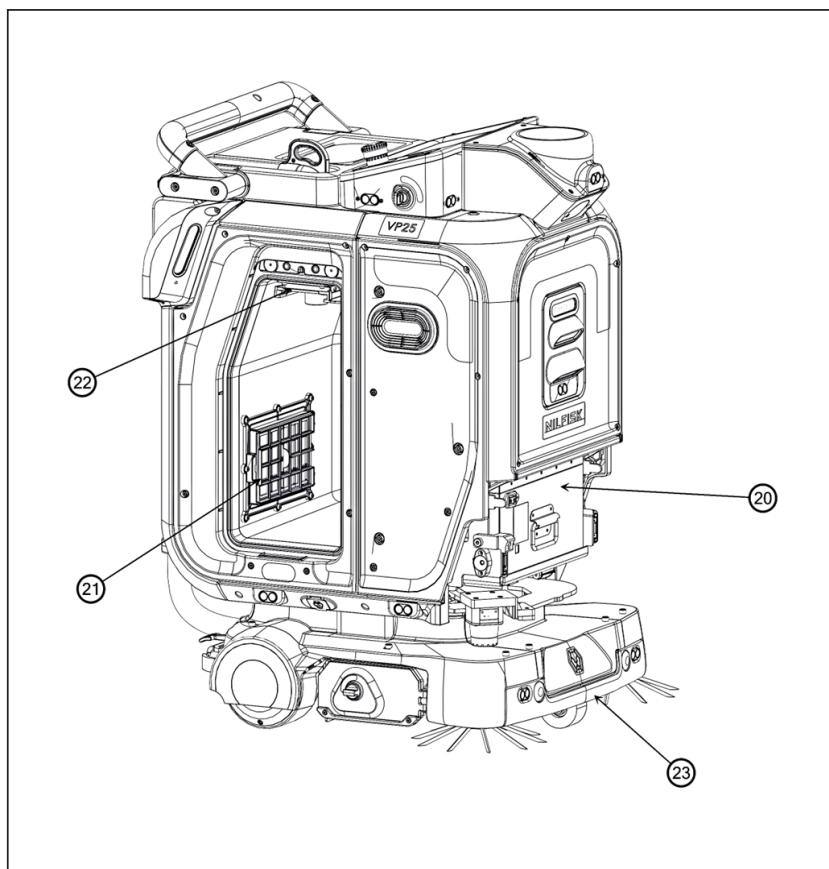
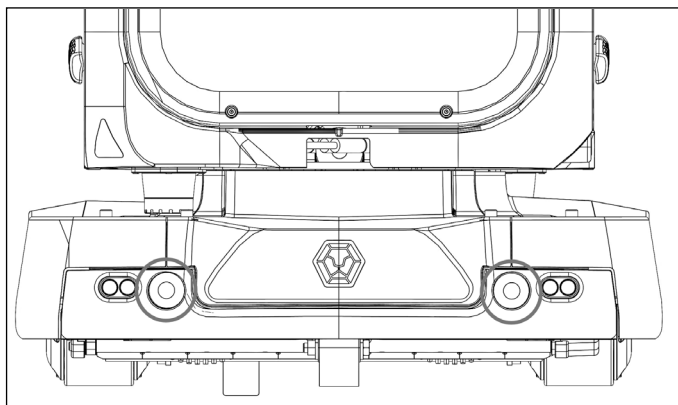

Figure 4
Figure 8
2. Push in the Battery Power Switch (20) (Fig. 4) to set it to ON position.
2. Ensure that the dust bag is installed into the Dust Bag Holder (22) (Fig. 4), and is not full.
3. Ensure that the HEPA filter is installed in the HEPA Filter Holder (21) (Fig. 4).
1. Press the 2 buttons (Fig. 8) to remove the Lower Front Cover (23) (Fig. 4).